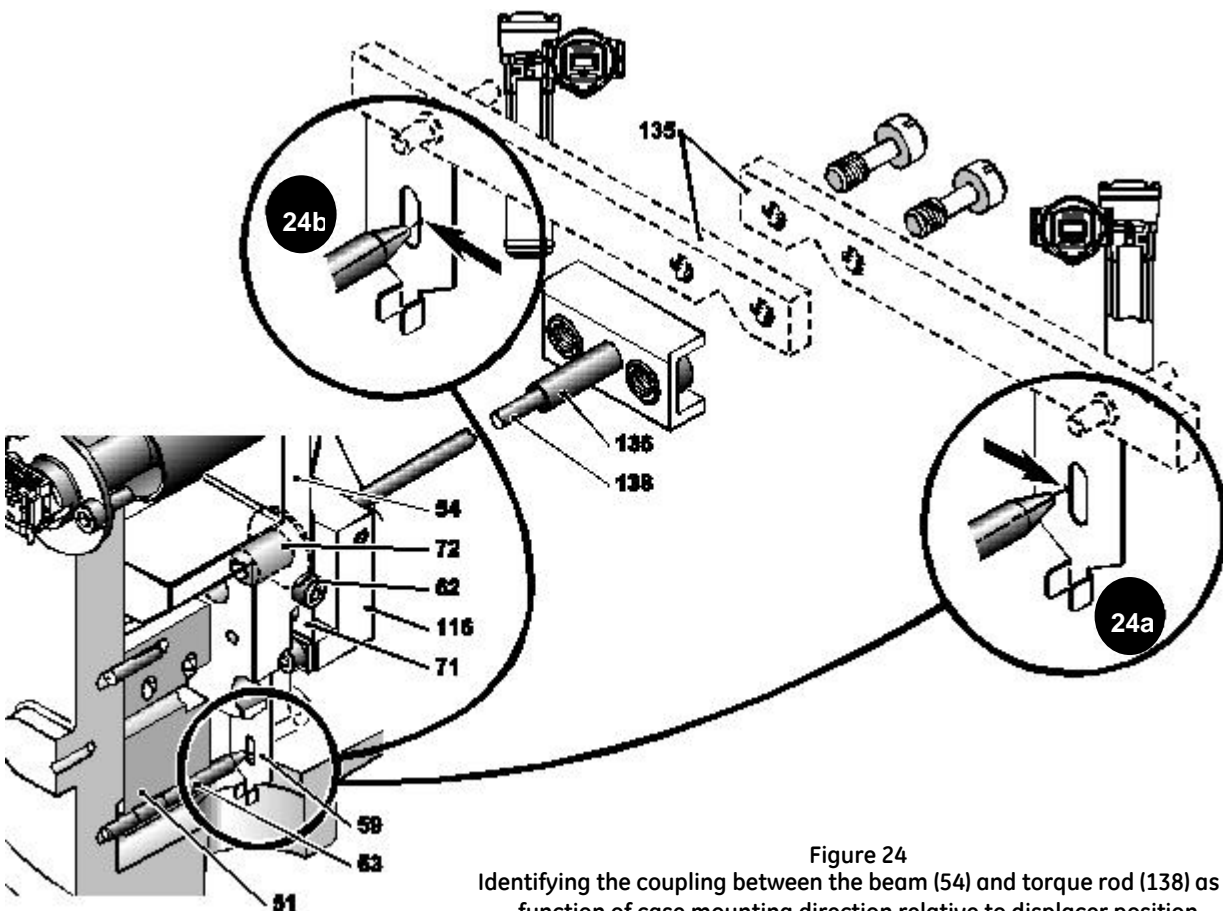

Figure 24
9.4. MOUNTING OF DLT CASE AND TORQUE TUBE SUB-ASSEMBLY (FIGURE 24)